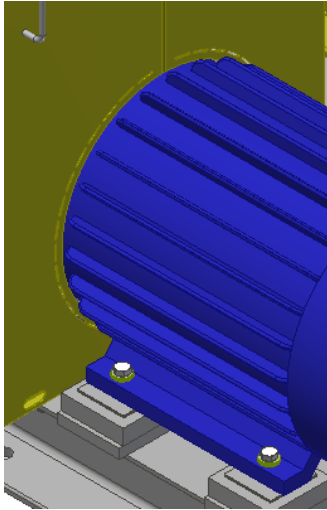

Figure 23: Machine Guard Motor Panel Modification
- Cut the Machine Guard Motor Panels (p/n's \_ \_-239 & \_ \_-240) along the slotted circular pattern that corresponds to the measured motor diameter as shown below (Figure 23).